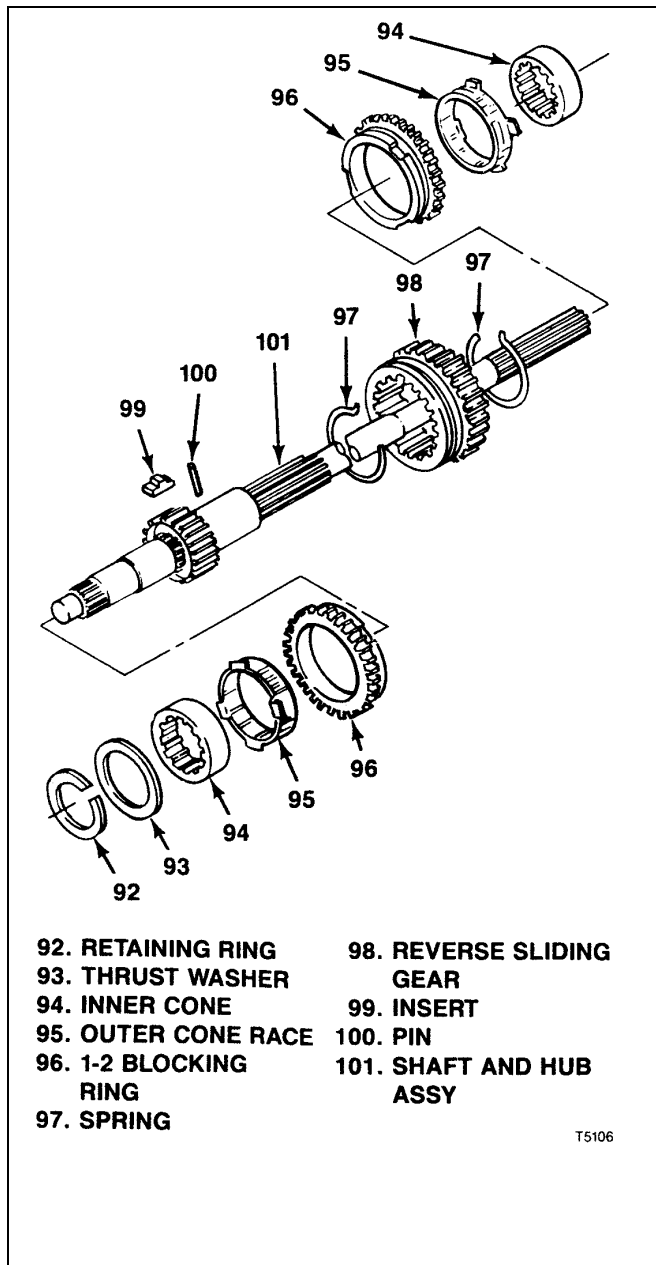

Figure 3-11. T5 WC Output Shaft Assembly
**3-17. DISASSEMBLY OF T5 WC OUTPUT SHAFT ASSEMBLY** (see figure 3-11):
- a. Remove retaining ring (92) and thrust washer (93).
- b. From each end of shaft and hub assembly (101), remove inner cone (94), outer cone race (95) and 1-2 blocking ring (96).
- c. Mark reverse sliding gear (98) and hub on shaft and hub assembly (101) so that clutch teeth can be assembled exactly as they were originally.
- d. Unhook and remove springs (97). Slide reverse sliding gear (98) from hub on shaft and hub assembly (101). Freeing inserts (99).
- e. Remove pin (100).
- f. Do not attempt to disassemble shaft and hub assembly (101).